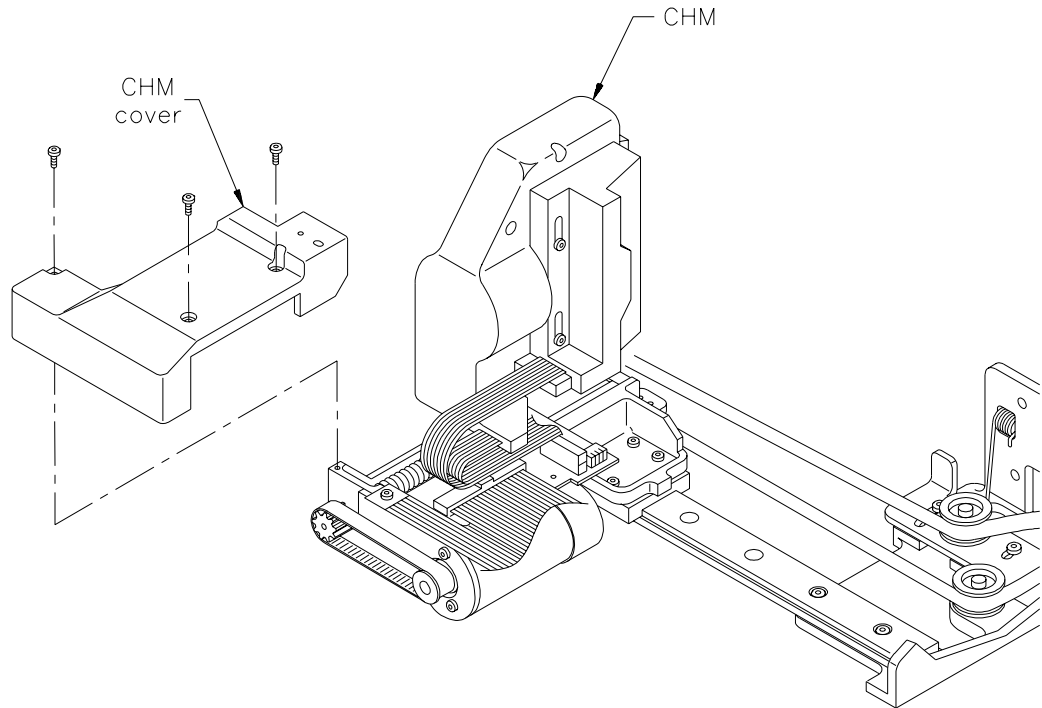

Figure 2 Removing the CHM cover
2. Use a T-10 TORX screwdriver to remove the three screws from the CHM cover (see Figure 2).